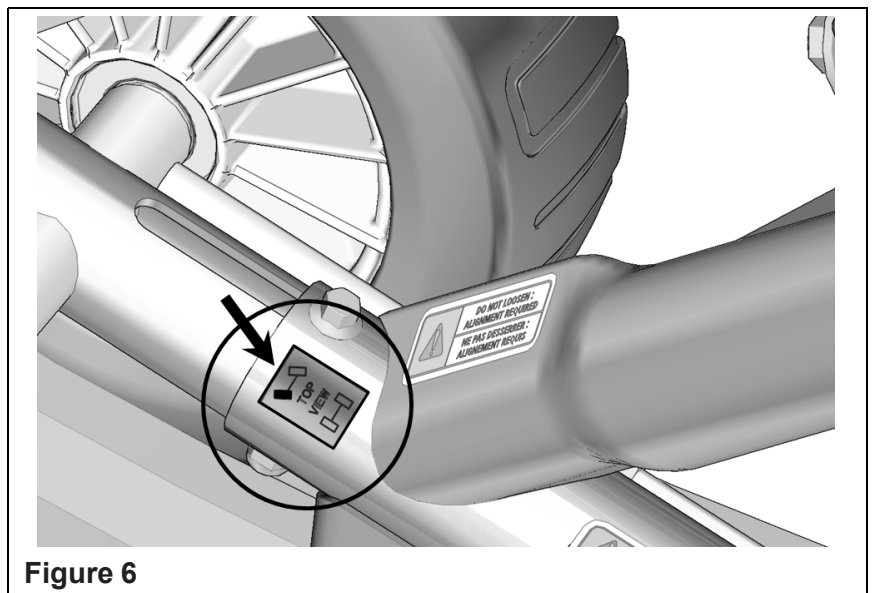

Figure 6
2. Identify and position each unit of the track system near the position indicated on the sticker affixed on the frame. Figure 6.